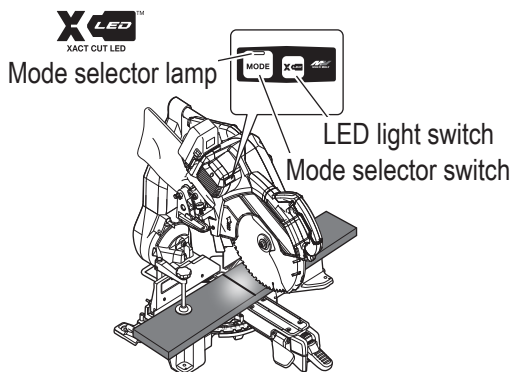

Fig. 23
7. LED lighting system (Fig. 23) [XACT CUT LED™]